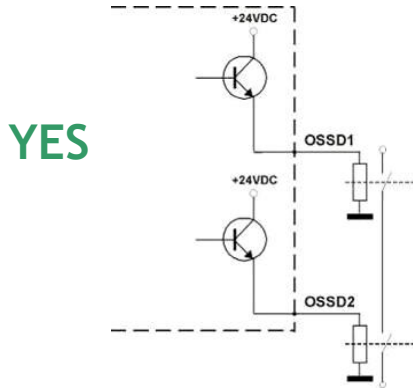

Fig. 18
- The OSSD1 and OSSD2 safety contacts cannot be connected in series or in parallel, but can be used separately (Fig.18). If one of these configurations is erroneously used, the device enters into the output failure condition (see cap.7 "Diagnostic functions").